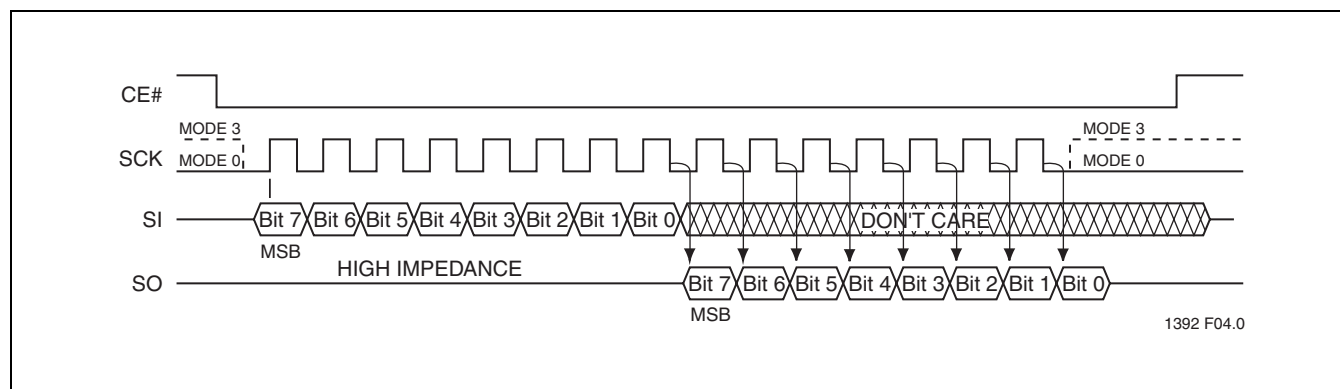

FIGURE 3: SPI Protocol
The SST25VF064C supports both Mode 0 (0,0) and Mode 3 (1,1) of SPI bus operations. The difference between the two modes, as shown in Figure 3, is the state of the SCK signal when the bus master is in Stand-by mode and no data is being transferred. The SCK signal is low for Mode 0 and SCK signal is high for Mode 3. For both modes, the Serial Data In (SI) is sampled at the rising edge of the SCK clock signal and the Serial Data Output (SO) is driven after the falling edge of the SCK clock signal.